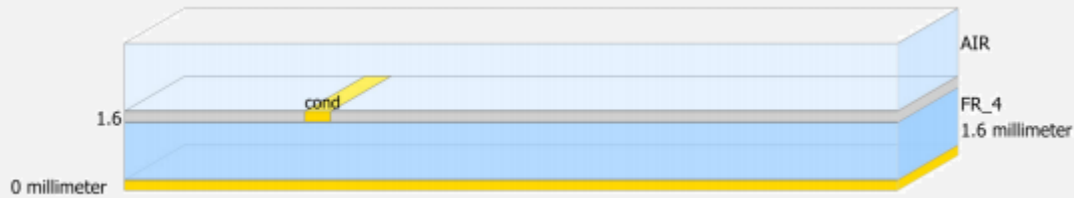

Figure 9. Substrate definition used for simulation
4. Open the EM setup window. Define the dielectric and conductor properties using the procedure described in the EM Simulation lab (Chapter 4). Once defined properly, the substrate should look like Figure 9.